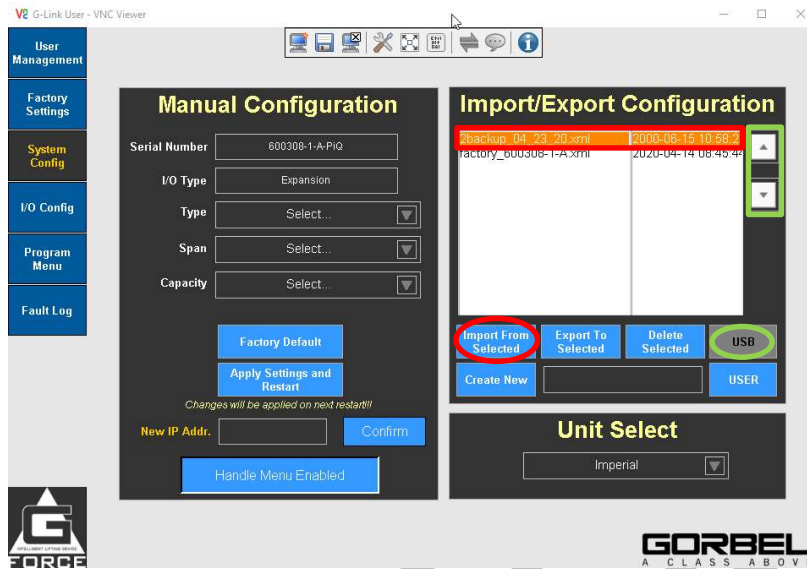

Figure 2: System Configuration Page—Import
- If not configured, click on **Import From Selected** (Ref: Fig 2 – Red Circle), to apply all the configuration settings that were previously set before the software upgrade (Make sure it is **factory\_XXXXXX\_c.xml** file for calibration values to be set back).